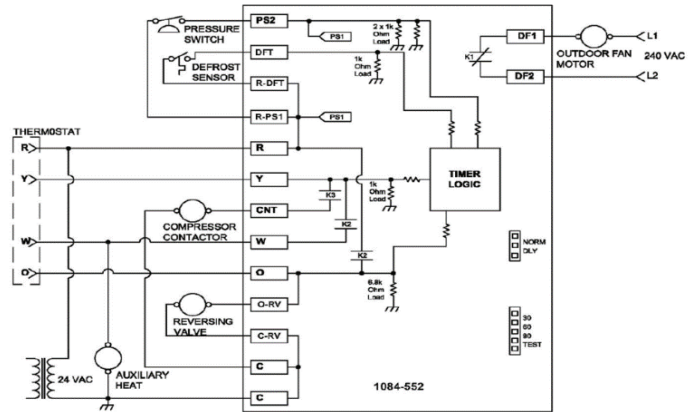

FIGURE 11: DEFROST CONTROL WIRING SCHEMATIC
**NOTE: REMOVE JUMPER ACROSS DEFROST THERMOSTAT BEFORE RETURNING SYSTEM TO SERVICE. SEE FIGURE 11: DEFROST CONTROL WIRING DIAGRAM.**